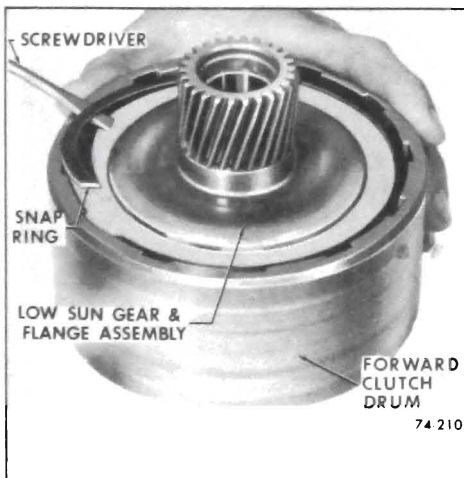

Figure 74-210
1. Remove the low sun gear and flange assembly retaining snap ring. See Figure 74-210.